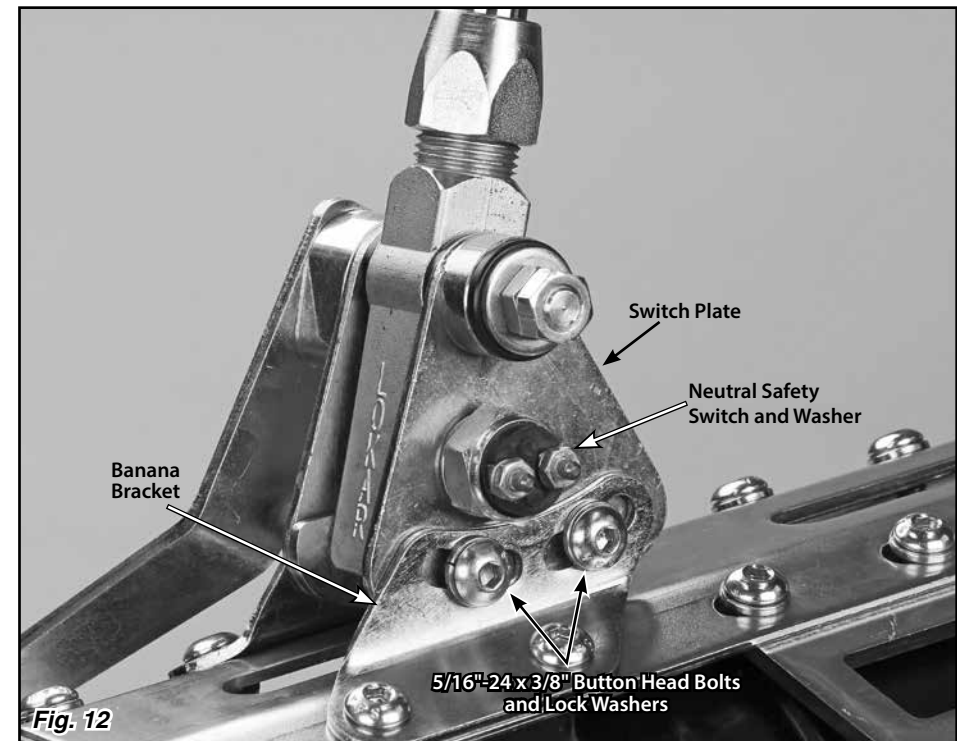

Fig. 12
Step 18: Remove the neutral safety switch and washer from the switch plate on the passenger side of the shifter assembly using a 7/8" wrench or socket. **Fig. 12**
Step 19: Loosen, but do not remove, the two 5/16"-24 x 3/8" button head bolts and lock washers that attach the switch plate to the passenger side banana bracket (the bolts are in curved, slotted holes) using a 3/16" Allen wrench. **Fig. 12**